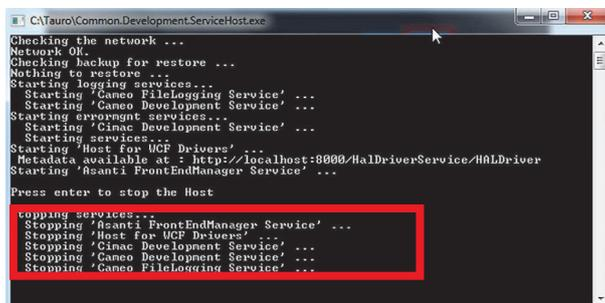

Fig.5-41: Service Host Window
- Step 4: The service Host window will pop up on the desktop or from the task (see Fig.5-41).